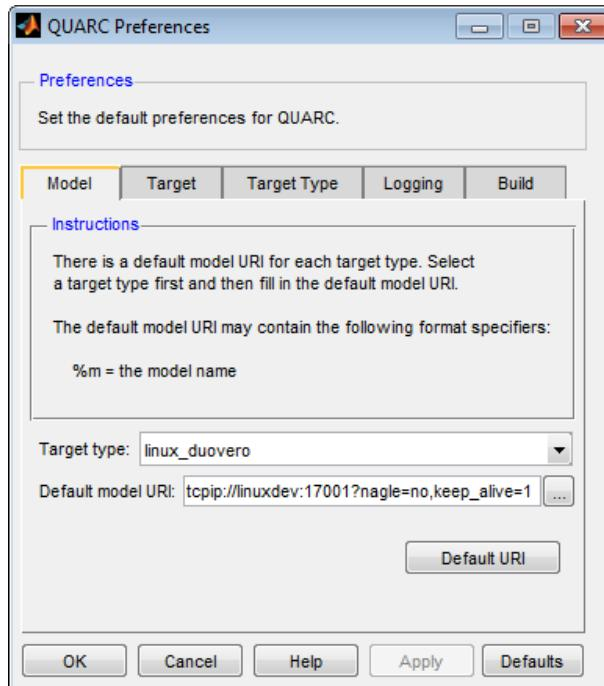

Figure 4.13: Configuring a default target
- Under the *Model* tab, replace the *Default Model URI* with the IP address of the desired target vehicle. For example, replace the URI string `tcpip://linuxdev:17001?nagle=no,keep_alive=1` shown in Figure 4.13 to `tcpip://192.168.2.200:17001?nagle=no,keep_alive=1`.